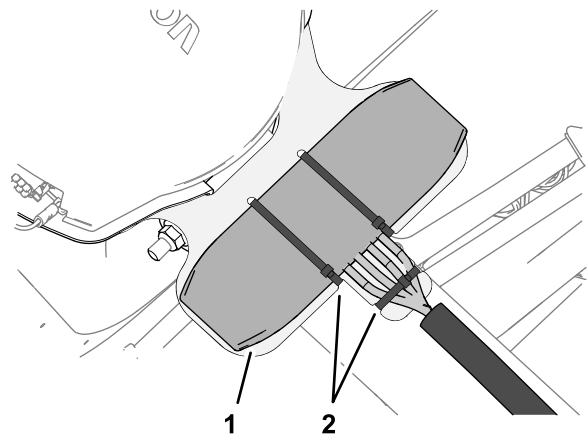

Figure 127
- Secure the antenna bracket with 3 cable ties as shown in Figure 127.
- Secure the wire harness of the modem antenna to the bracket as shown in Figure 127.